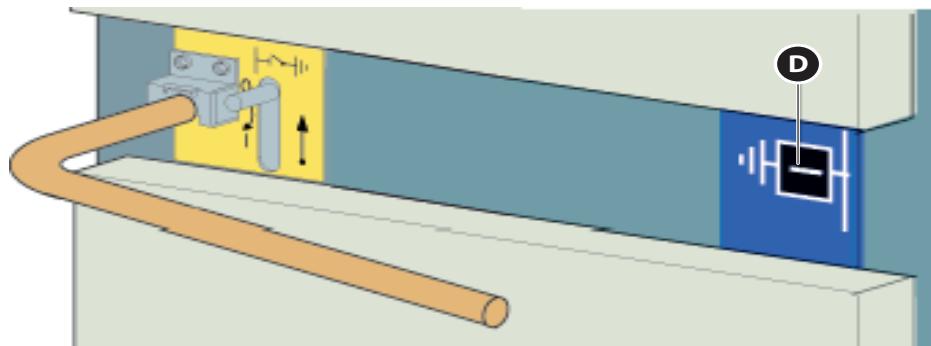

Fig. 5
3. Check position indicator. It should indicate that the earthing switch is ON (Fig. 5, item D).